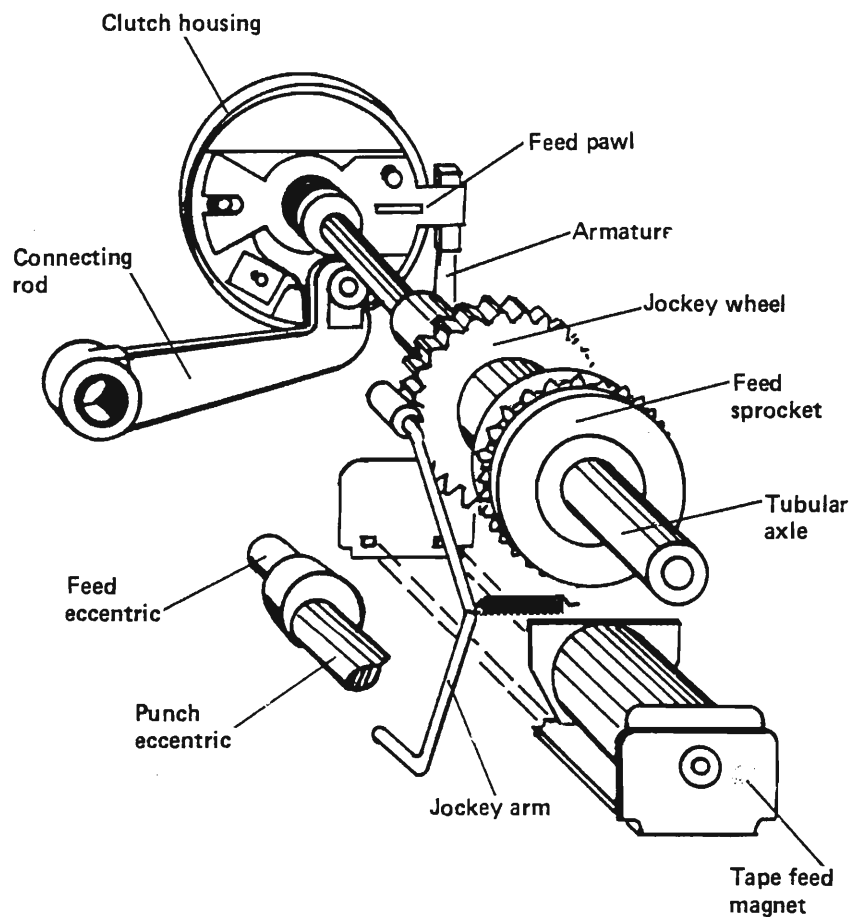

Fig. 5.4 Tape feed mechanism
*Tape Feed (Fig. 5.4, 5.5 and 5.6)*